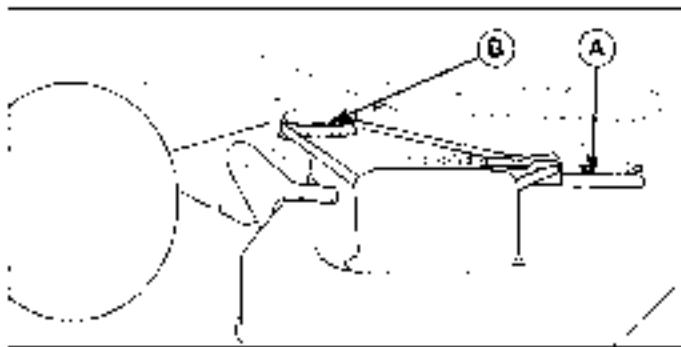

Figure 15. Removing & Installing Belt
- Move idler arm (A, Figure 15) to relieve belt tension. Remove belt from PTO pulley (B).
- Move idler arm (A, Figure 15) to relieve belt tension. Install belt onto the PTO pulley (B).